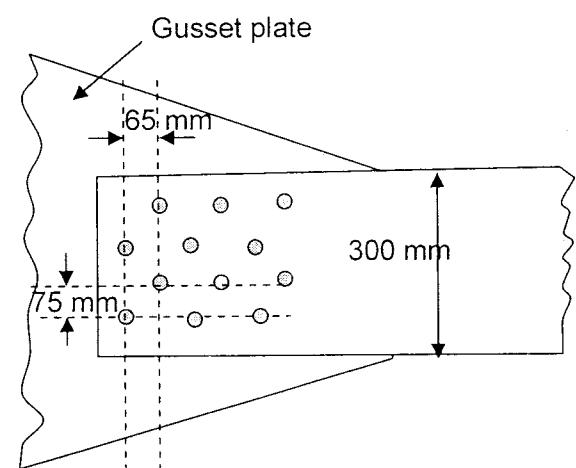

Fig. 5a) Chain riveting
6. A 300 I.S.F 8 mm is used as a tension member in a lattice girder. It is connected to a 12 mm gusset plate by 18 mm φ hand-driven rivets. The yield stress of steel is 250 N/mm^2 . Calculate the maximum force that the member can carry, if (40)
- Chain riveting is done as shown in Fig. 5a